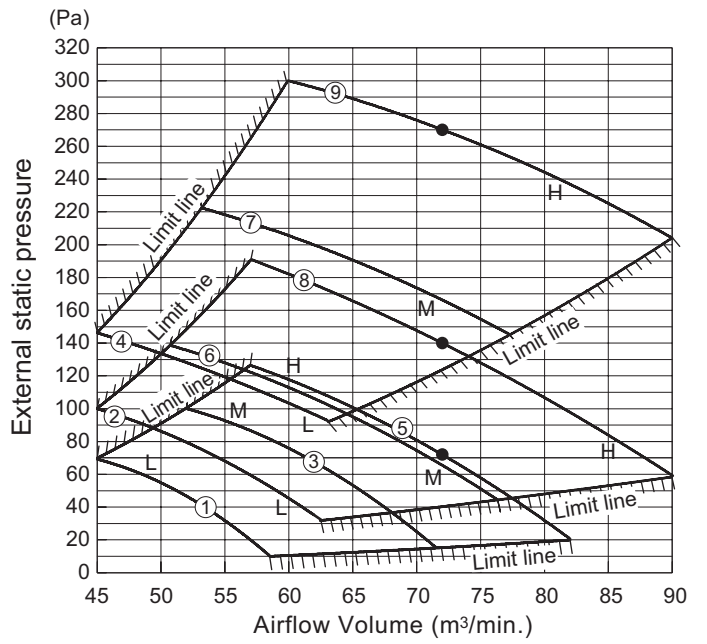

Fig. 1-18
(1) Refer to Table 1-4, 1-5 and Fig. 1-18 for details on the relationship between the value of item code “5d” and the external static pressure.
(2) When set in group control (connecting multiple indoor units with one timer remote controller), set each indoor unit to item code “5d”.
- **Make sure the external static pressure is in a range of specifications. Then proceed the external static pressure setting. Improper settings can cause noise, a shortage of airflow volume and water leakage. Refer to Fig. 1-18 for the external static pressure setting range.**
Refer to Table 1-4 and Fig. 1-18 and select a value "0006", "0003" or "0001".
Select one of the "Set data" among "0006", "0003" or "0001" according to the desired external static pressure setting by pressing the or button. (See Table 1-5 and Fig. 1-18.)